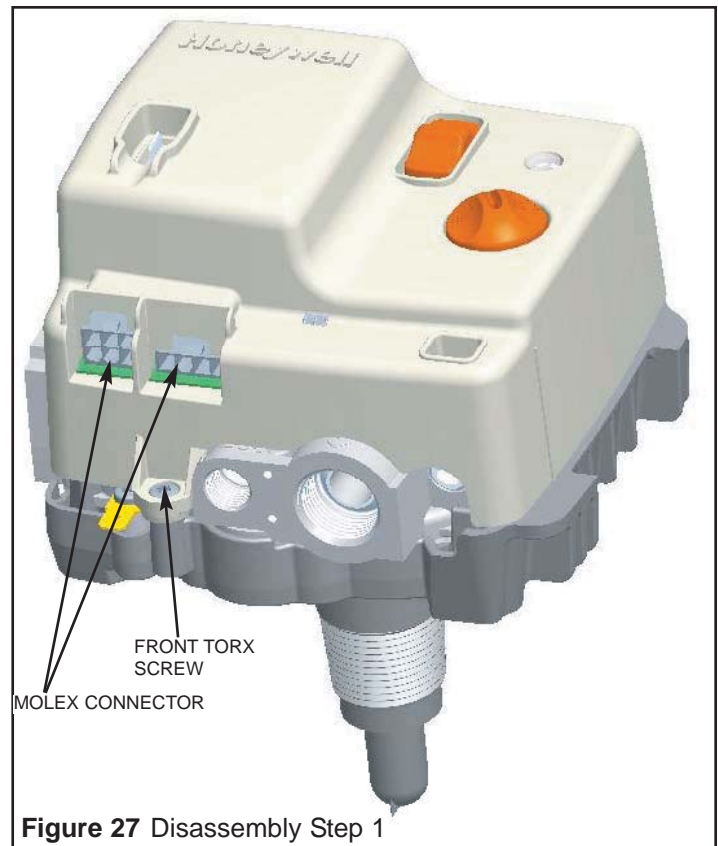

Figure 27 Disassembly Step 1
1. Remove the front Torx screw and the 2 molex connectors from the bottom of the gas control as illustrated in Figure 27.